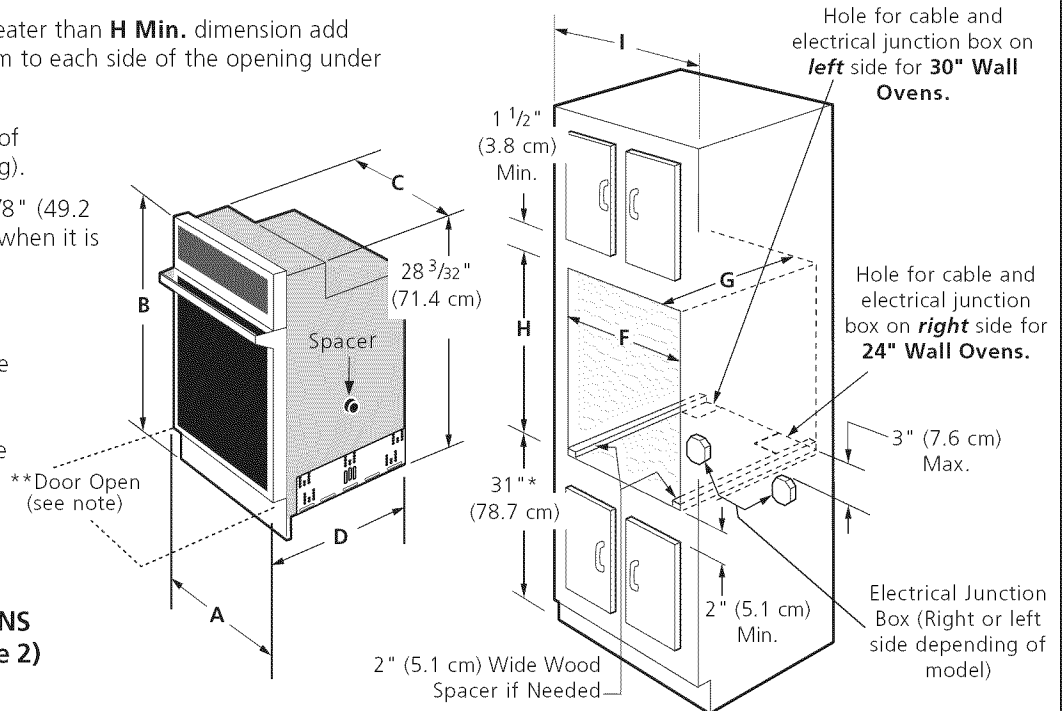

Figure 1
(Single Ovens see Figure 1)
Refer to figure 1 or 2 for the dimensions applicable to your appliance, and the space necessary to receive the oven. The oven support surface may be solid plywood or similar material, however the surface must be level from side to side and front to rear.
2. These appliances should be connected to the fused disconnect (or circuit breaker) box through flexible armored or nonmetallic sheathed cable. The flexible armored cable extending from the appliance should be connected directly to the junction box. The junction box should be located as shown in figure 1 or 2 with as much slack as possible remaining in the cable between the box and the appliance, so it can be moved if servicing is ever necessary.